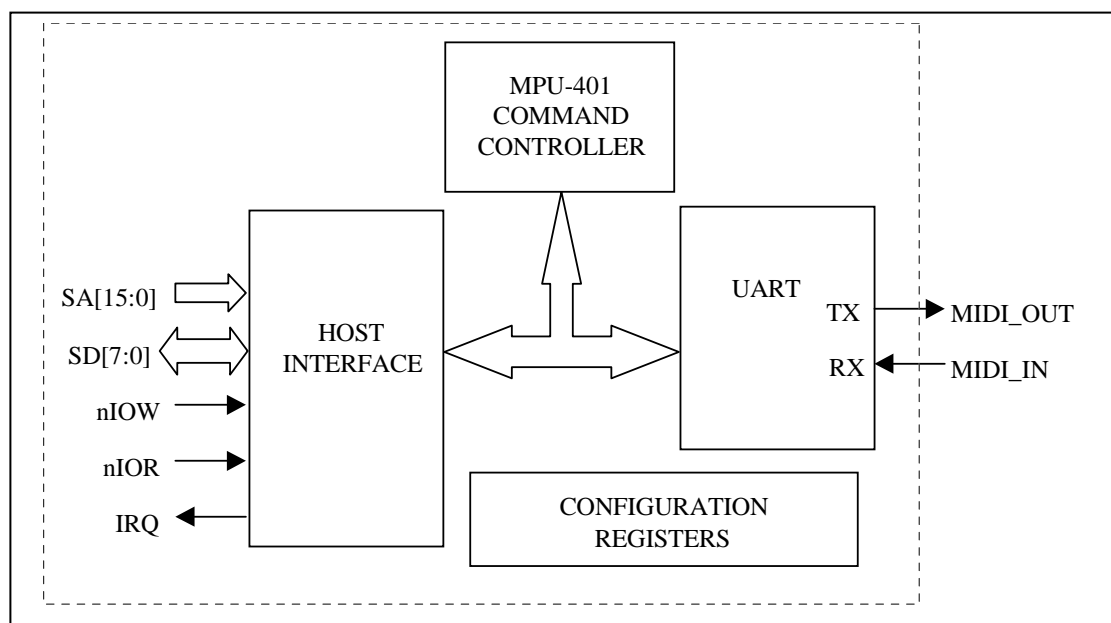

FIGURE 2 - MPU-401 MIDI INTERFACE
Serial Port 3 is used exclusively in the LPC47M112 as an MPU-401-compatible MIDI Interface. The LPC47M112 MPU-401 hardware includes a Host Interface, an MPU-401 command controller, configuration registers, and a compatible UART (Figure 2).
The Host Interface includes two contiguous 8-bit run-time registers (the Status/Command Port and the Data Port), and an interrupt. For illustration purposes, the Host Interface block shown in Figure 2 uses standard ISA signaling. Address decoding and interrupt selection for the Host Interface are determined by device configuration registers (see Section "MPU-401 Configuration Registers").
**Note3** IRQ is the MPU-401 Host Interface IRQ shown in Figure 2. The UART Receive FIFO Threshold = 1.